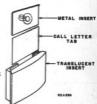

Fig. 2. View showing call letter installation.
1. Slide out metal insert from translucent insert assembly. (See Fig. 2).